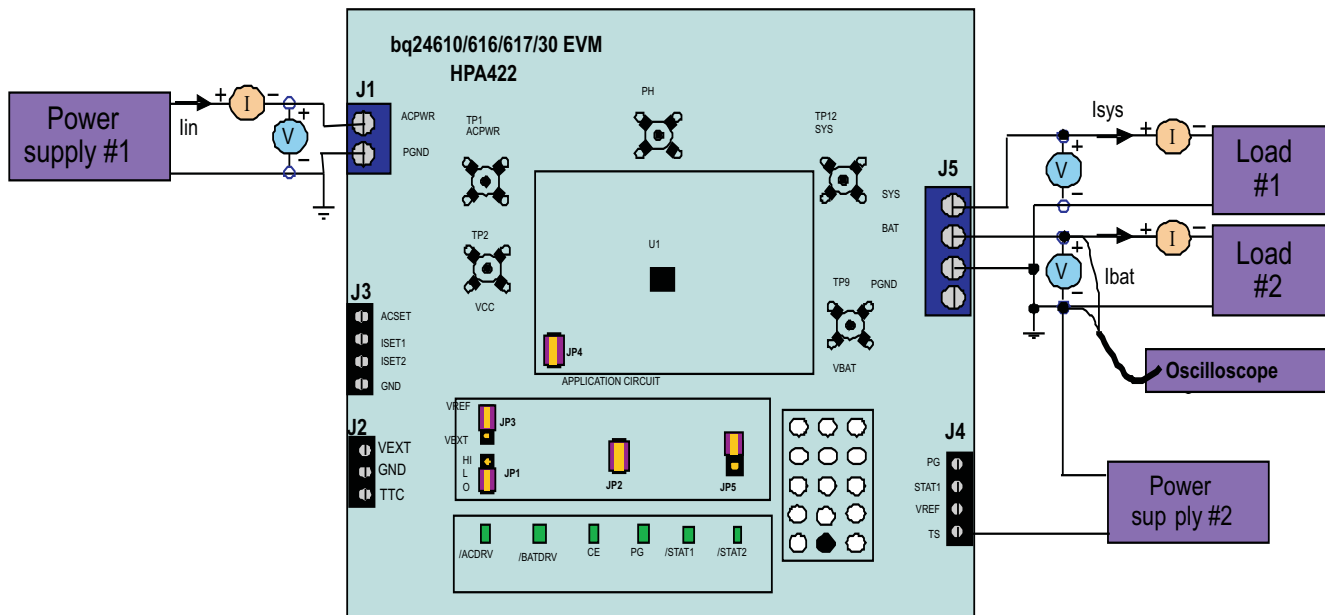

Figure 1. Original Test Setup for HPA422 (bq2461x/bq2463x EVM)
After the above steps, the test setup for HPA422 is shown in Figure 1.
3. Connect the output of the Load #1 in series with a current meter (multimeter) to J5 (SYS, GND). Make sure a voltage meter is connected across J5 (SYS, GND). Turn on the power of the Load #1. Set the load current to $3.0\text{A} \pm 50\text{mA}$ but disable the load #1. The setup is now like Figure 1 for HPA422. Make sure $I_{\text{bat}} = 0\text{A} \pm 10\text{mA}$ and $I_{\text{sys}} = 0\text{A} \pm 10\text{mA}$.